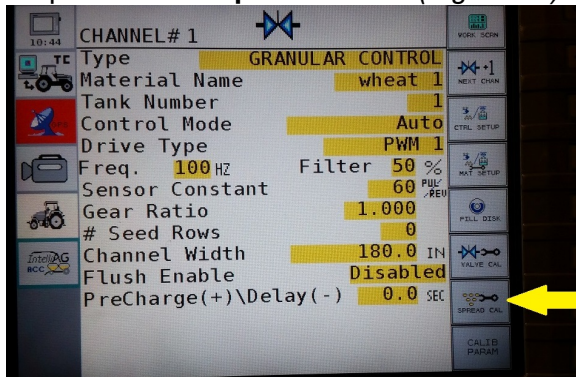

Figure 45
Step 5. Select **Spreader CAL** (Figure 45)